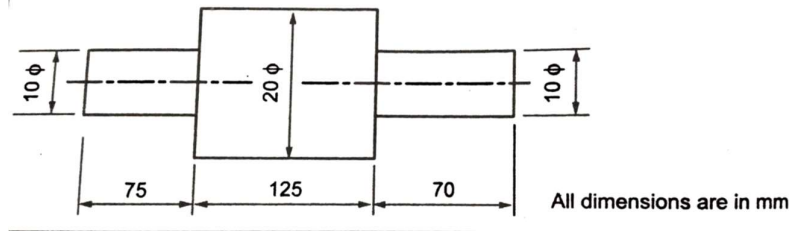

Fig. 4.10
12. (a) (i) 150 pieces of shafts as shown in Fig.4.10 are to be drop forged from the raw stock (8)